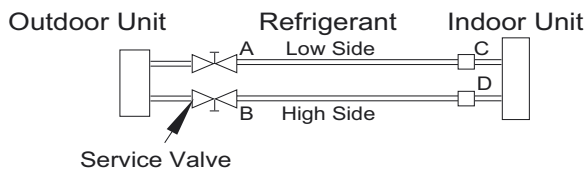

Fig. 24 — Service Valve
1. Completely tighten flare nuts A, B, C, D. Connect the manifold gage charge hose to a charge port of the low side service valve (see Fig. 24).